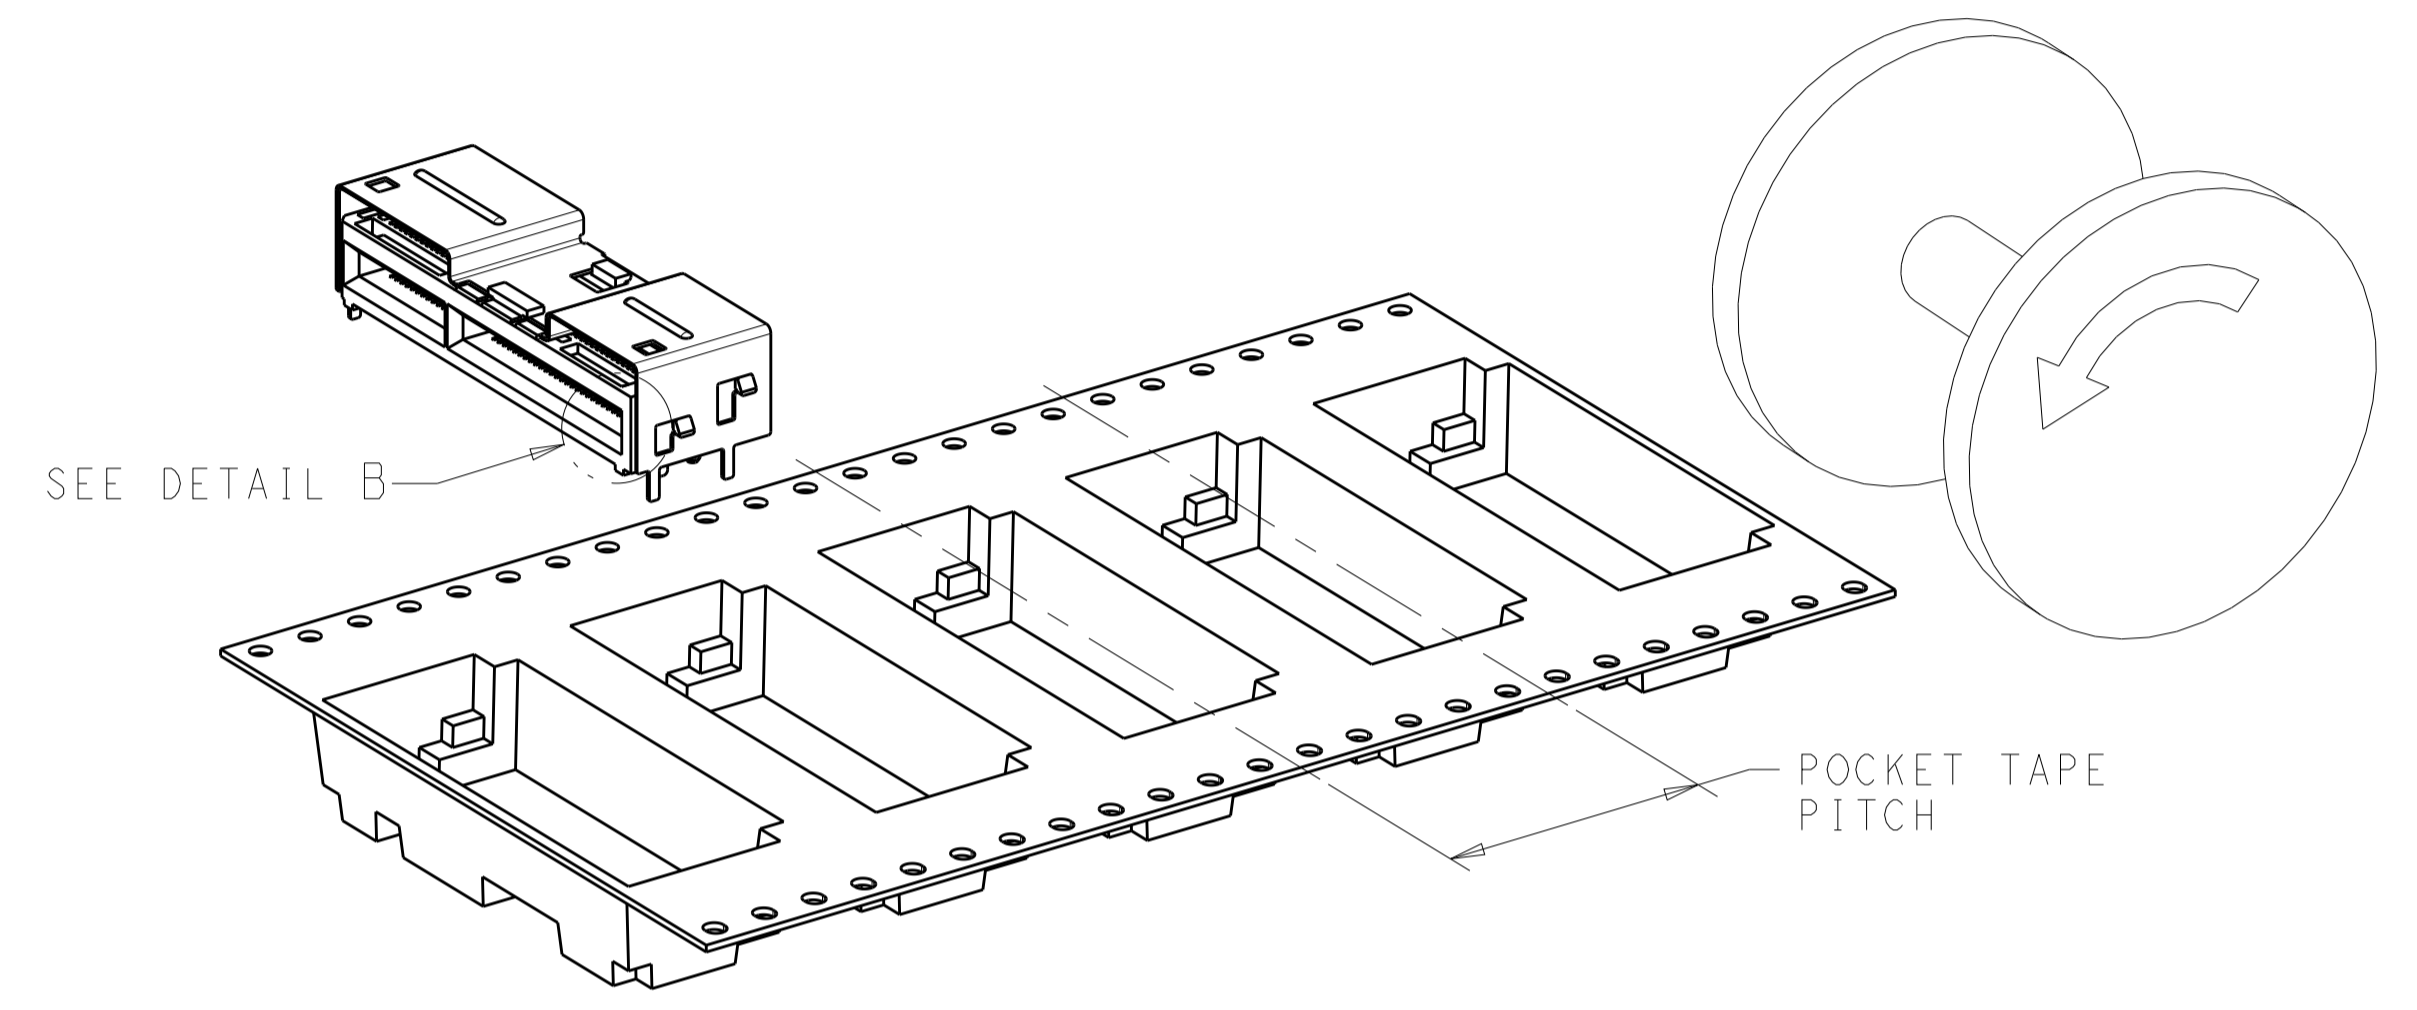

FIGURE 1 \triangle
- 8 TAPE AND REEL PACKAGED FOR PICK AND PLACE SURFACE MOUNT PROCESSING, SEE FIGURE 1. POCKET TAPE WIDTH = 56.